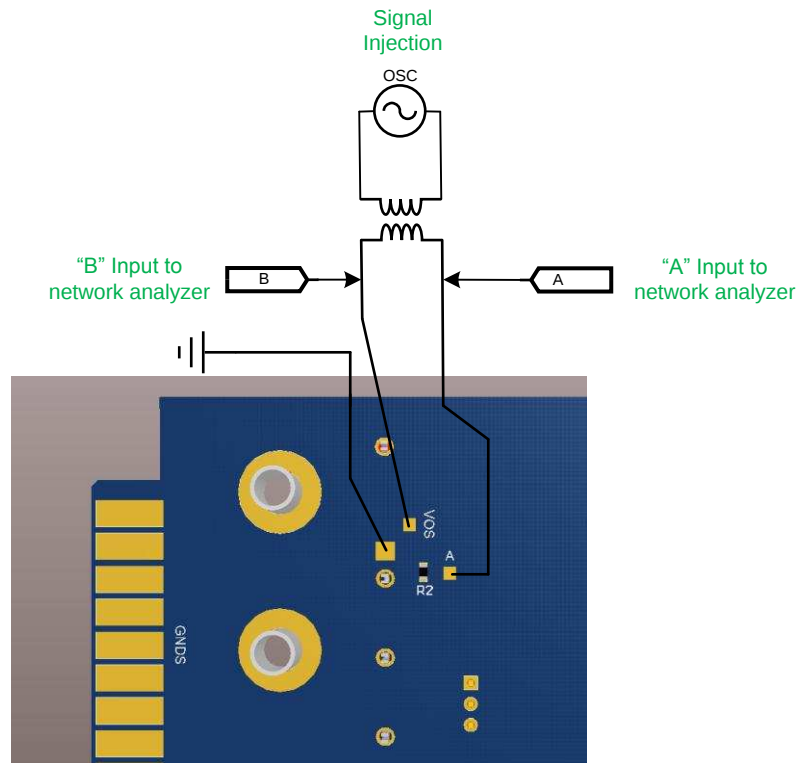

Figure 5. FRA Setup
- **A** - Connection for frequency response analyzer (on bottom of board) - see Figure 5.